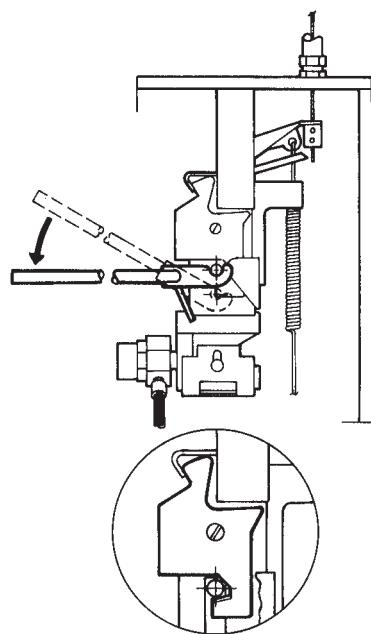

FIGURE 4
- 18. Cock the regulated release mechanism using cocking lever (Part No. 14995 or 435603). See Figure 4.